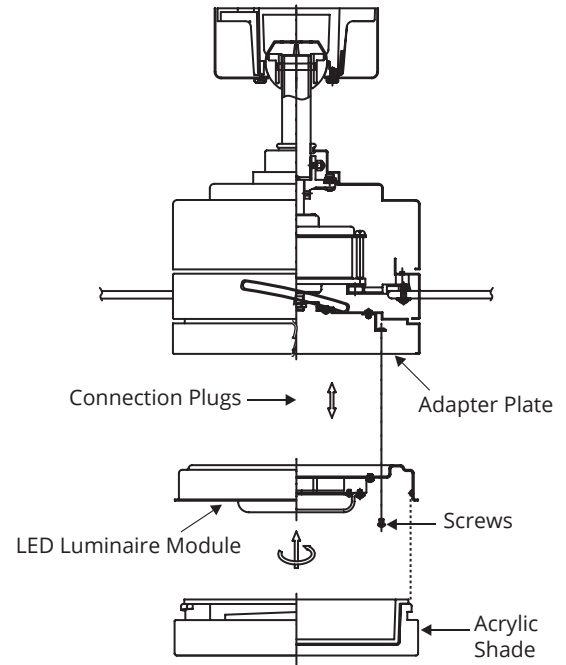

FIGURE 19
2. Raise and hold the LED luminaire module close to the mounting plate and proceed to secure the wire connections. Connect the white wire connectors from the luminaire module to the white wire of the fan. Follow the same procedure with the black wire connectors (Fig. 19).
3. Tuck connections neatly into mounting plate, Place the luminaire module key holes over the 2 screws previously loosened from the mounting ring, turn luminaire module until it locks in place at the narrow section of the key holes. Secure by tightening the 2 screws previously loosened and the one previously removed (Fig. 19).